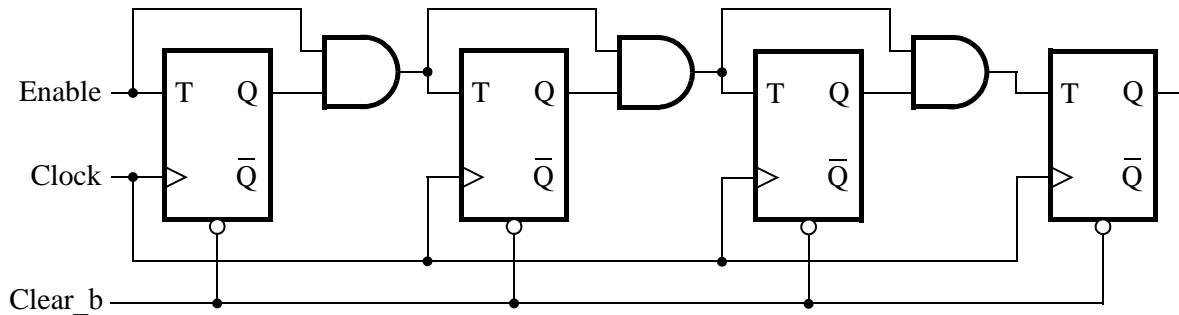

Figure 1: A 4-bit counter.
Consider the circuit in Figure 1. It is a 4-bit synchronous counter that uses four T-type flip-flops. The counter increments its value on each positive edge of the clock if the *Enable* signal is 1 (*i.e.* high). The counter is reset to 0 by setting the *Clear\_b* signal low, which means that the clear is an **active-low asynchronous** clear. You should implement an 8-bit version of this counter.
1. Draw the schematic for an 8-bit counter using the same structure as shown in Figure 1. **(PRELAB)**
7. Use the Quartus Prime RTL Viewer to see how the Quartus Prime software synthesized your circuit. You can access the RTL viewer on Quartus via **Tools -> Netlist Viewers -> RTL Viewer**. You can zoom into the various building blocks of your circuit by double-clicking on them, to get more information about their implementation. What are the differences in comparison with Figure 1? **(PRELAB)**